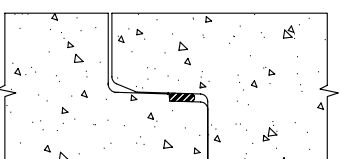

Figure 2
6. Align the Stormceptor units and gently push the joint home. (See Figure 2)